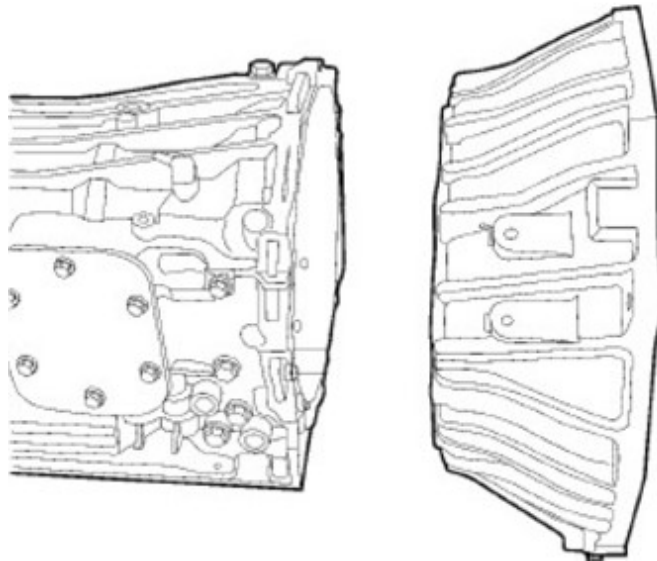

Fig. 4
7. Remove the bolts securing the torque converter housing to the transmission case and remove the housing Fig. 4.